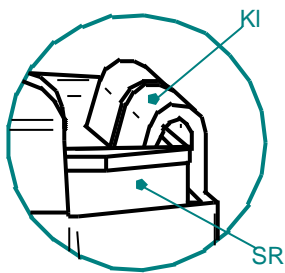

Fig.7
- Clamp the vibratory channel **Sr** with edge **R** below the lugs on the mounting **Kl**. **Fig.7**